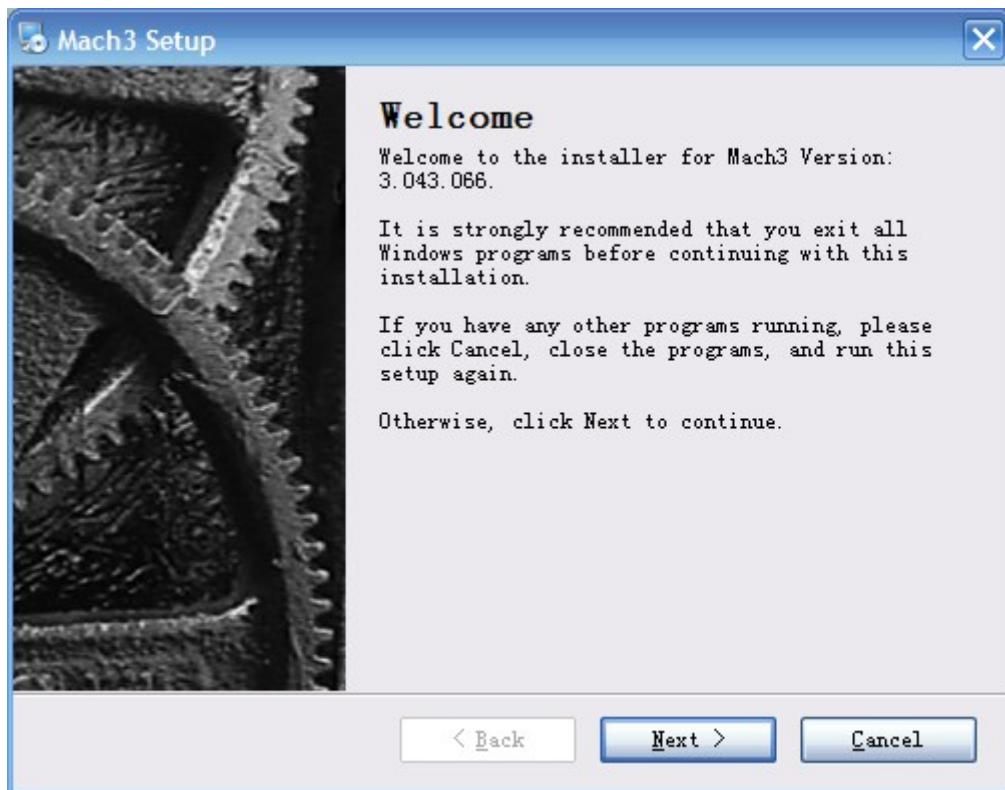

Figure3-2. MACH3 installation process 1
**First run the installation Mach3Version3.043.066** into the first page. See as Figure 3-2.